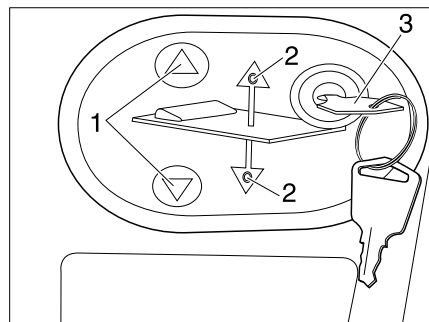

Fig. 165 Operating panel for electrical pull-down bed
- Insert the key (Fig. 165,3) into the operating panel.
- Press the  (Fig. 165,1) button and keep it pressed. The corresponding LED (Fig. 165,2) will light up and the pull-down bed will lower into the middle position and remain there.
- Press the  (Fig. 165,1) button and keep it pressed. The respective LED (Fig. 165,2) lights up and the pull-down bed moves down as far as it will go.